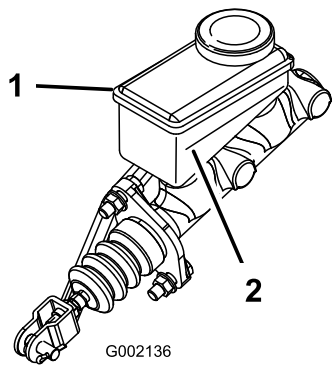

Figure 65
5. Look at the outline of the fluid level at the side of the reservoir (Figure 65).
- B. Add DOT 3 brake fluid to the reservoir until the fluid level is above the Minimum line (Figure 65).